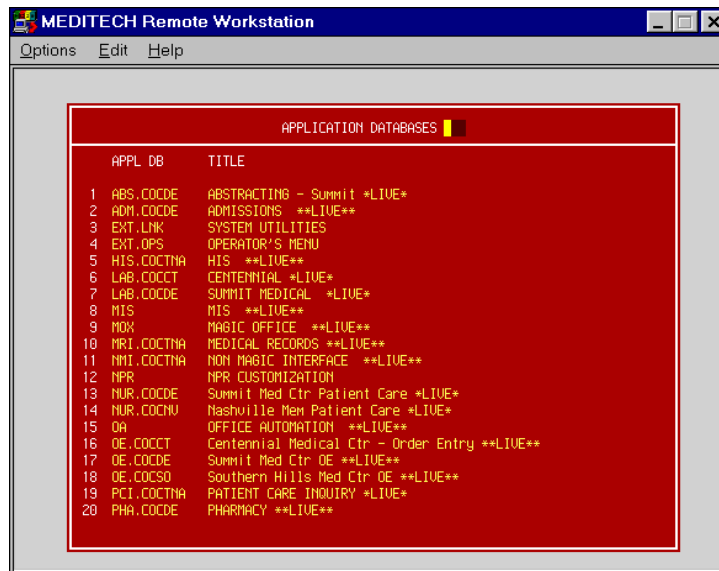

Figure 1: Application Databases
1. Logon to the MEDITECH workstation and access the Application Databases menu. See Figure 1.
2. Find and Select **Ext.OPS** option [**Operations Menu**] from the Application Databases list and enter the [**Operator Code**] to access the Hospital Administration menu. The System Administrator could configure this option to be any number. As an example **Ext.OPS** option [**Operations Menu**] is option 4 in the Figure 1 screenshot.